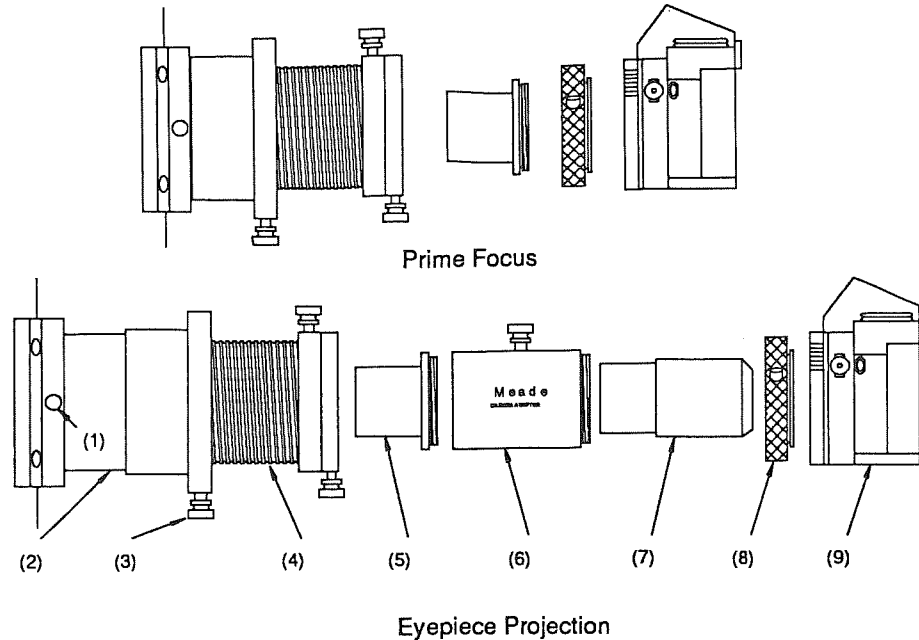

Fig. 2
Refer to the top half of Fig. 2 (Prime Focus) for the correct positioning of the pieces described below.
2. Attach the optional T-mount (#8, Fig. 2) to your 35mm SLR camera body.
3. Thread the Prime focus adapter (#5, Fig. 2) only into the front of the T-mount now attached to your camera.
5. Loosen the Focuser slide lock thumbscrew (#1, Fig. 2) and lower the focuser slide tube to the lowest position. Retighten the thumbscrew.
6. Focus the camera by looking through its viewfinder and rotating the focuser threaded tube (#4, Fig. 2) until the image is sharp. Once focused, this position can be locked by tightening the focus lock thumbscrew (#3, Fig. 2).
Refer to the lower half of Fig. 2 for correct positioning of the parts described below.
1. Insert the eyepiece (#7, Fig. 2) into the eyepiece projection body (#6, Fig. 2) and lock in place by a gentle tightening of the thumbscrew.
2. Thread the eyepiece projection body (with the eyepiece inside) between parts (5) and (8) as shown in Fig.2.
4. Focus the camera by looking through its viewfinder and rotating the focuser threaded tube (#4, Fig. 2) until the image is sharp. Once focused, this position can be locked by tightening the focus lock thumbscrew (#3, Fig. 2).